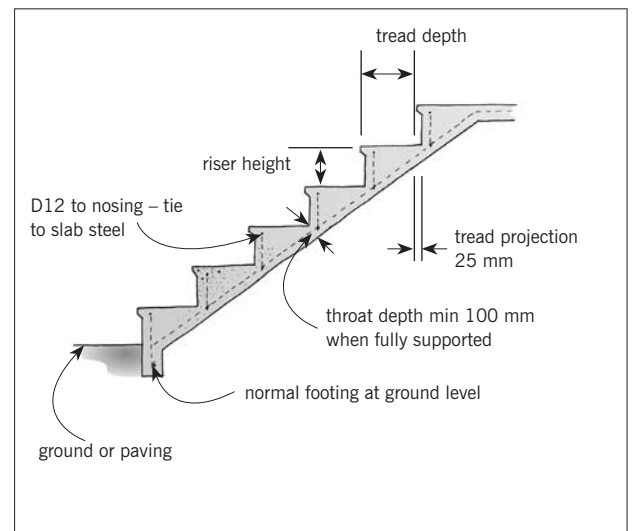

Figure 9. Concrete steps.
8.0.2 A free standing stair is shown, but for short run steps on grade may be formed over hardfill rather than the ply formwork shown. For casting on the ground (Figure 9), the minimum depth of the slab at the throat of the steps should be 100 mm. Where the stair is free spanning the reinforcing and thickness at the throat should be specifically designed.
8.0.5 Nosings can be formed by incorporating fillets (Figure 9) or be separately incorporated in the applied finish.